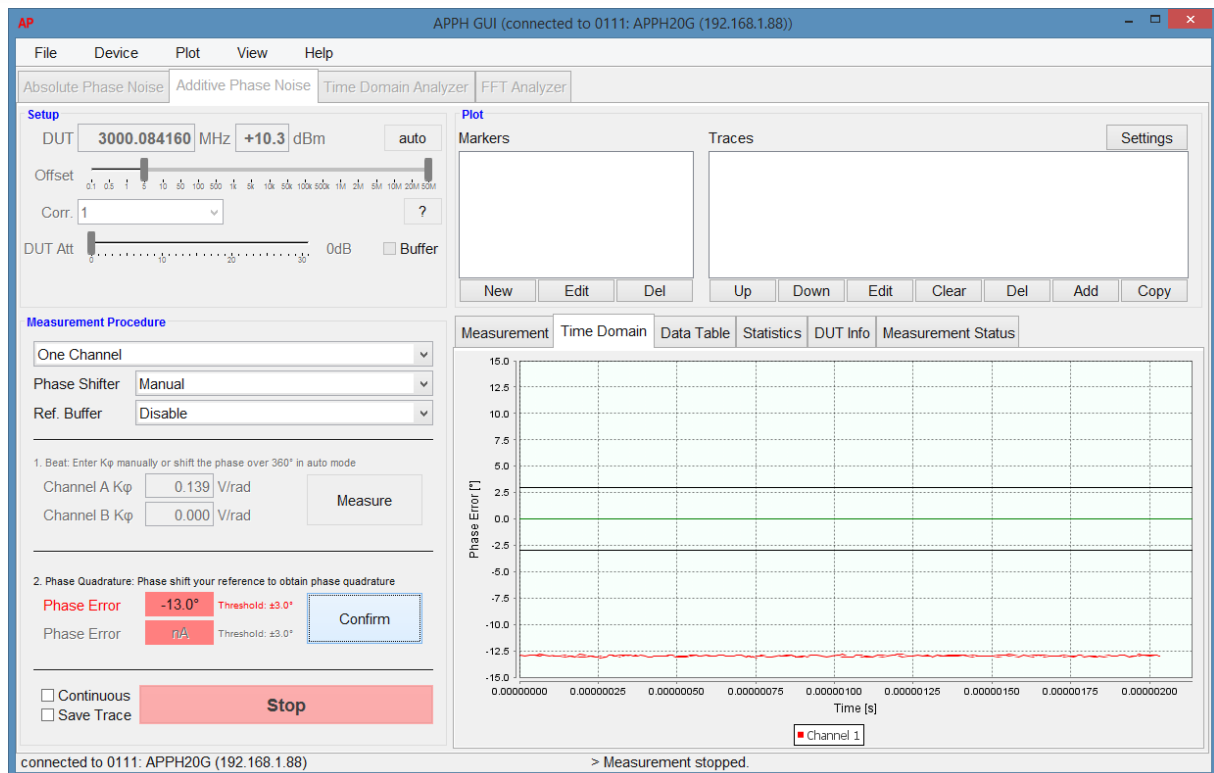
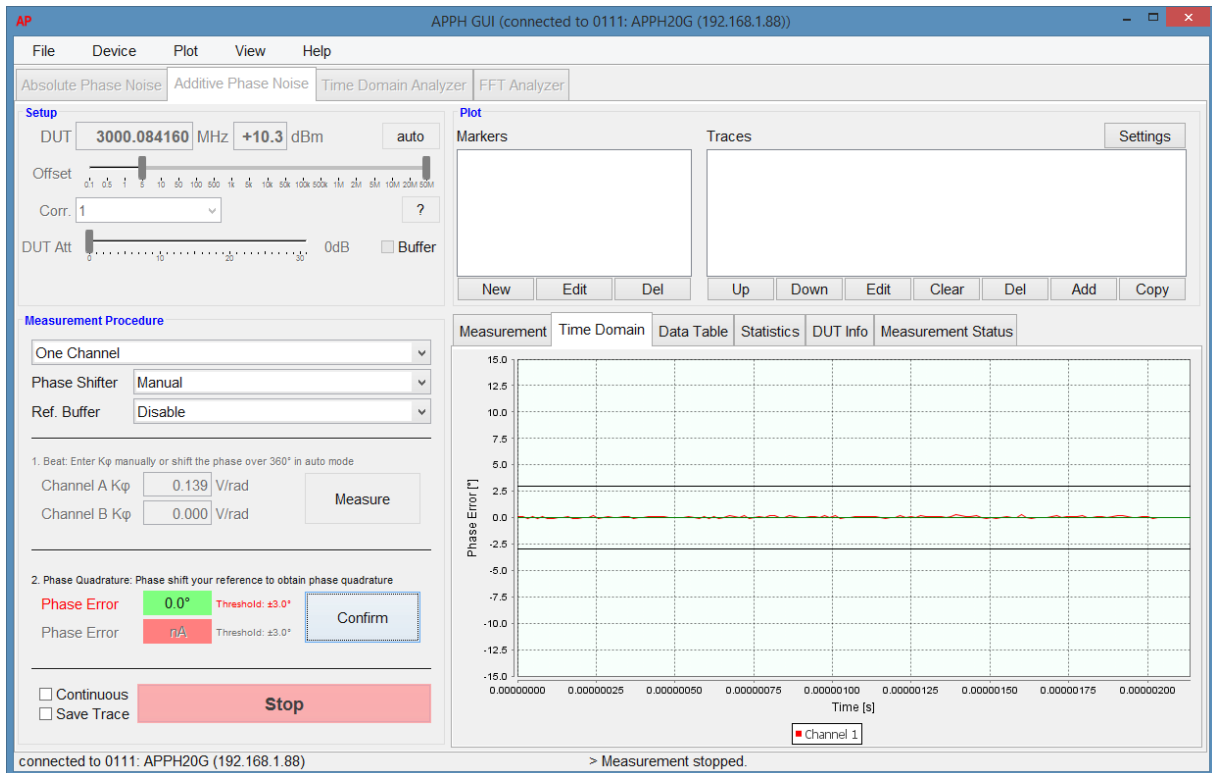

Figure 5: Adjusting to phase quadrature using phase shifter
Figure 6: Quadrature achieved within accepted tolerance range
- In a next step, the signals at the phase detector are adjusted to quadrature (90° phase shifted in respect to each other) using the phase shifter (see Figure 5 & Figure 6). Clicking on the second "Measure" button will continuously show the current phase error which has to be reduced to 0° by phase shifting the reference. Once the phase error is minimized, complete the calibration step by clicking on the second "Confirm" button.